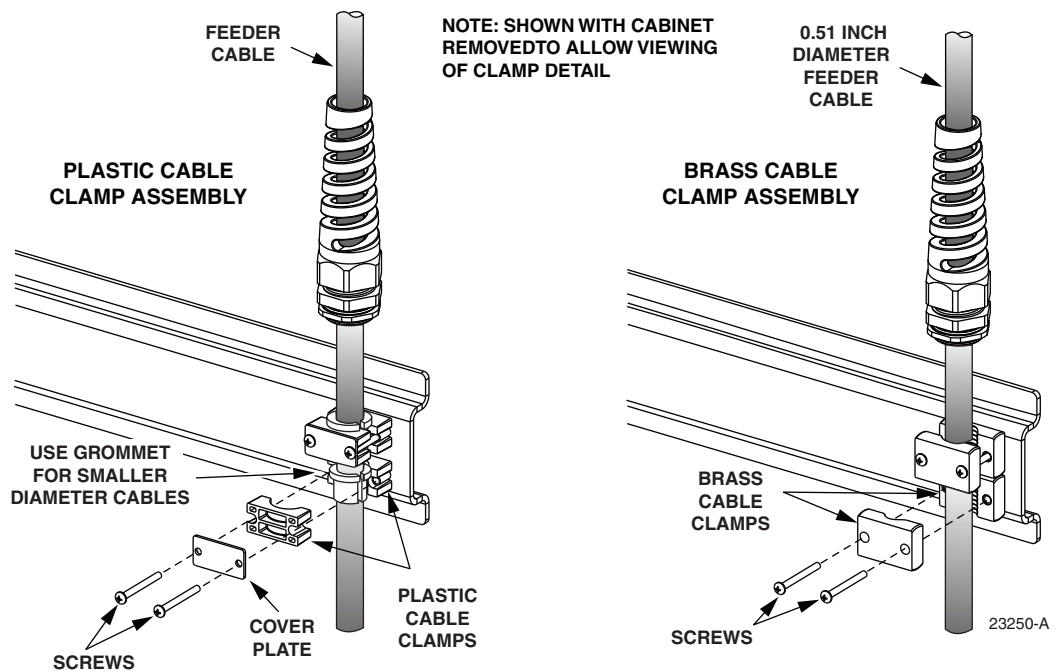

Figure 17. Assembling Feeder Cable Clamps
12. Depending on the cabinet option, either plastic or brass clamps will be provided with the cabinet. Assemble the cable clamps on the feeder cable as shown in Figure 17.